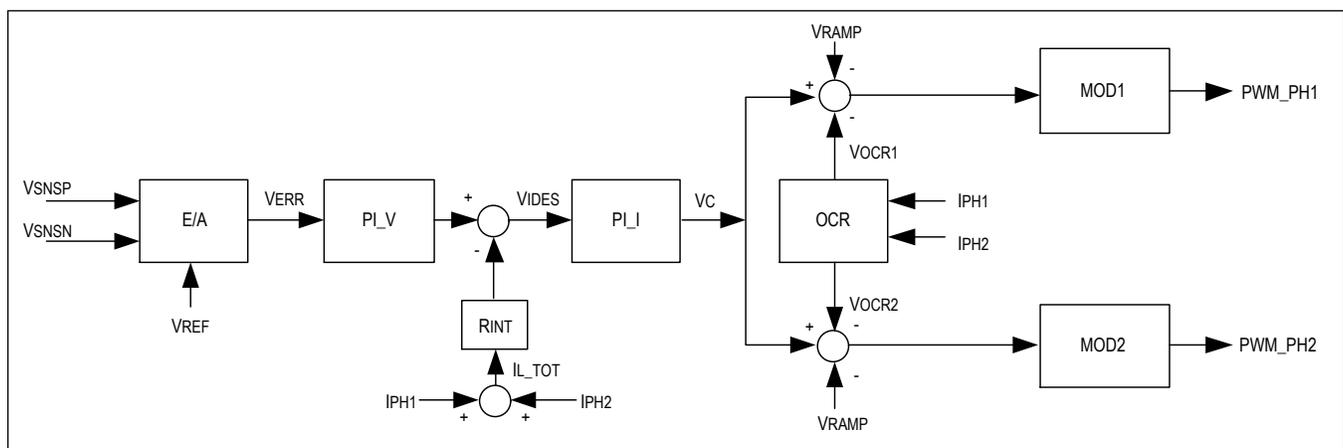

Figure 1. Simplified Control Architecture
The MAX20796 control loop is based on the multiphase peak current-mode control architecture. The loop contains multiple amplifier stages and modulator circuits that switch each phase based on its phase current. Figure 1 shows the internal amplifier stages of the controller and how phase-current information is used to generate the phase-control signals by using a two-phase system as an example. The first error amplifier stage is a differential amplifier, which provides an output equal to 2.2 times the error between the reference voltage and the differential remote-sense voltage. Its output voltage (VERR) is used as the input of the first proportional integral (PI) block used for voltage loop. Then the output voltage of the PIV block minus the total sensed phase currents ( $I_{L\_TOT} \times R_{INT}$ ) are generated as the current-loop error amplifier input (VIDES). After VIDES is handled by another PI amplifier, its output (VC) along with the slope compensation ramp (VRAMP) and the current balancing info (VOCR), are used for the PWM modulation (MOD) for each phase.